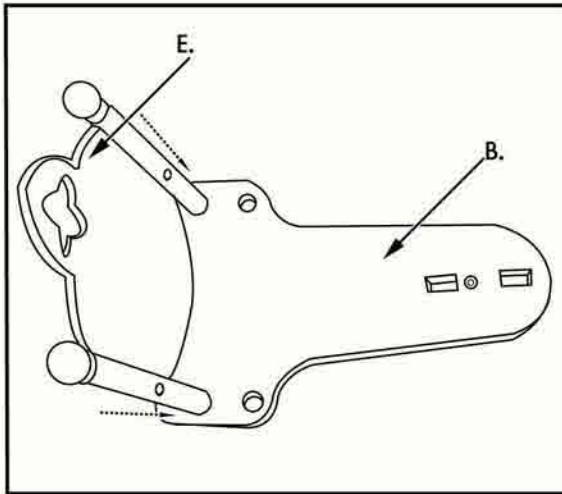

Fig. 2 Attach Arm Rests (D) to Chair Back (E)
To save time, we suggest that you organize and pre-assemble in the sequence shown in the Fig. drawings all of the screws and their washers. (ie: for fig 2 put the N Small washer and O Spring washer onto the I Large machine screw. Do this in advance of each step.)
- Insert Arm Rests (D) vertically into the pre-drilled holes on Seat (B).
- Align Arm Rests (D) to the pre-drilled holes on the chair back post (see Fig 2)
- Put Small washer (N), Spring washer (O), and Large machine screw (I) in sequence in the pre-drilled holes and screw them in until secure.
- Turn assembled Fig 2 upside down and align Rear Leg (C) to the bottom of the seat (B)
- Put Large washer (L), Medium washer (M), Spring washer (O), and Medium machine screw (J) in sequence in the pre-drilled holes and screw them in until secure.
- Put 2 sets of Small washer (N), Spring washer (O), and Small machine screw (K) in sequence in the pre-drilled holes and screw them in until secure.